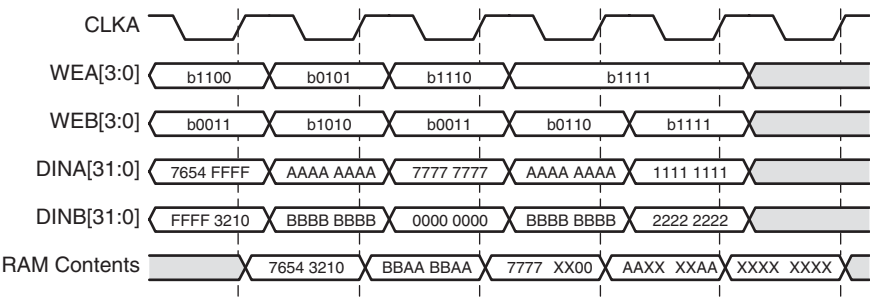

Figure 14: Write-write Collision Example
- **Using Byte-Writes.** When using byte-writes, memory contents are not corrupted when separate bytes are written in the same data word. RAM contents are corrupted only when both ports attempt to write the same byte. **Figure 14** illustrates this case. Assume ADDRA = ADDRB = 0.